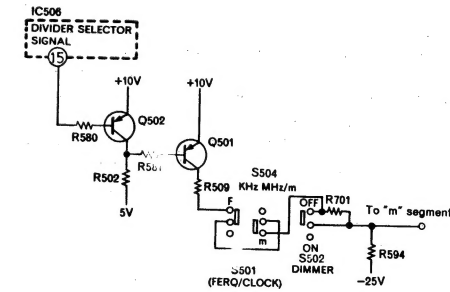

Fig. 14
This circuit lights the "m" segment in m (meter) SW band display mode. Terminal (15) of IC506 as shown in Fig. 14 is the output terminal to control the dividing ratio in the FM/SW mode. It is set to 5V in FM/MW mode and 10V in SW mode. Accordingly, Q502 turns ON during FM/MW mode and OFF during SW mode. In addition to this, Q501 turns ON during FM/MW mode and the 10V power supply is connected to the "m" segment of the display tube via Q501, R509, S501, S504, S502, so the "m" segment lights when scanned by the 6-phase signal.